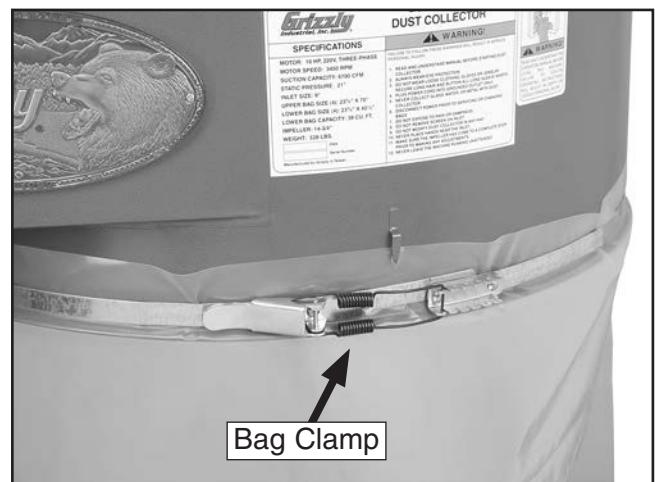

Figure 18. Lower collection bag secured to collector.
18. Wrap the bag clamp around the collector, position it between the bottom lip of the collector and the hooks, and fasten the bag clamp to secure the bag to the collector (see **Figure 18**).